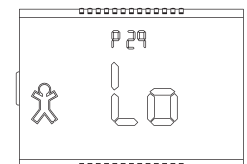

Fig. 14: T&B Mode Lo
- d. ACTIVE TEST & BALANCE MODE - Screen P29 (figures 14 & 15)
- d. ACTIVE TEST & BALANCE MODE - Toggles between 'LO' and 'HI' on the LCD. This mode is active only for models which use Channel 1 as a temperature output. 'LO' will drive Channel 1 to it's lowest voltage or current output. 'HI' will drive Channel 1 to it's highest voltage or current output. (figures 14 & 15)